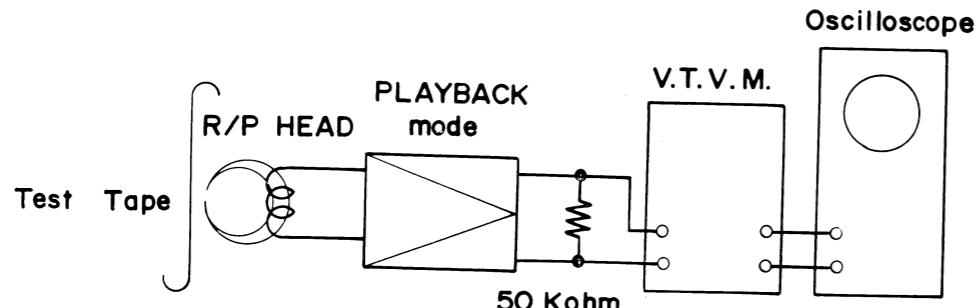

Fig. 25
7. MEASUREMENT OF PLAYBACK SENSITIVITY VOLTAGE (TEST TAPE) (Refer to Fig. 25)